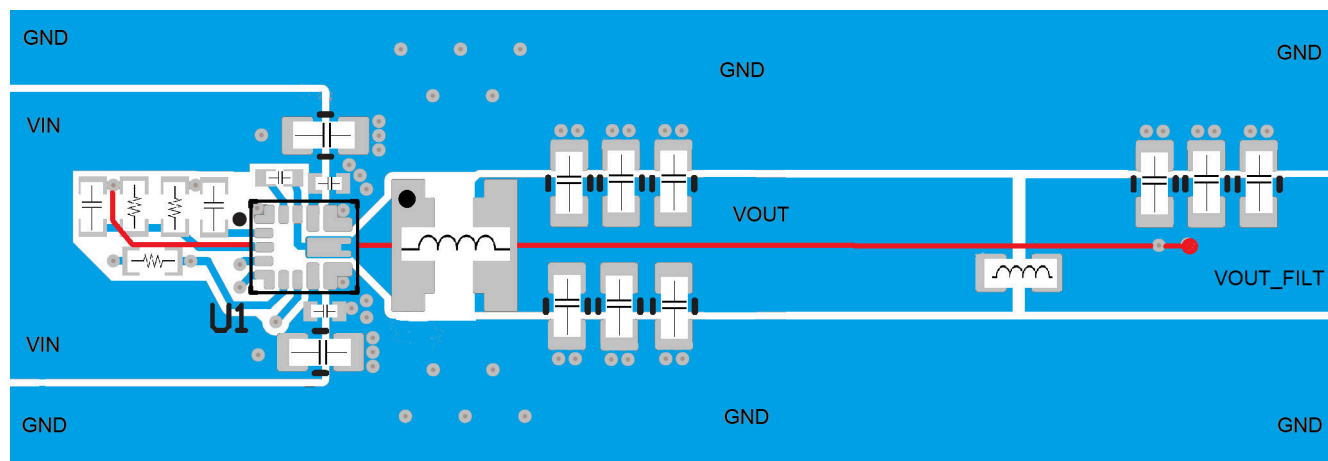

図 7-23. Recommended Layout for Design with Second L-C Filter
- Avoid placing the ferrite bead in the keep out region as shown in 図 7-23
- See the recommended layout implemented on the EVM and shown in the EVM user's guide, TPS62916EVM Evaluation Module, as well as in 図 7-23.